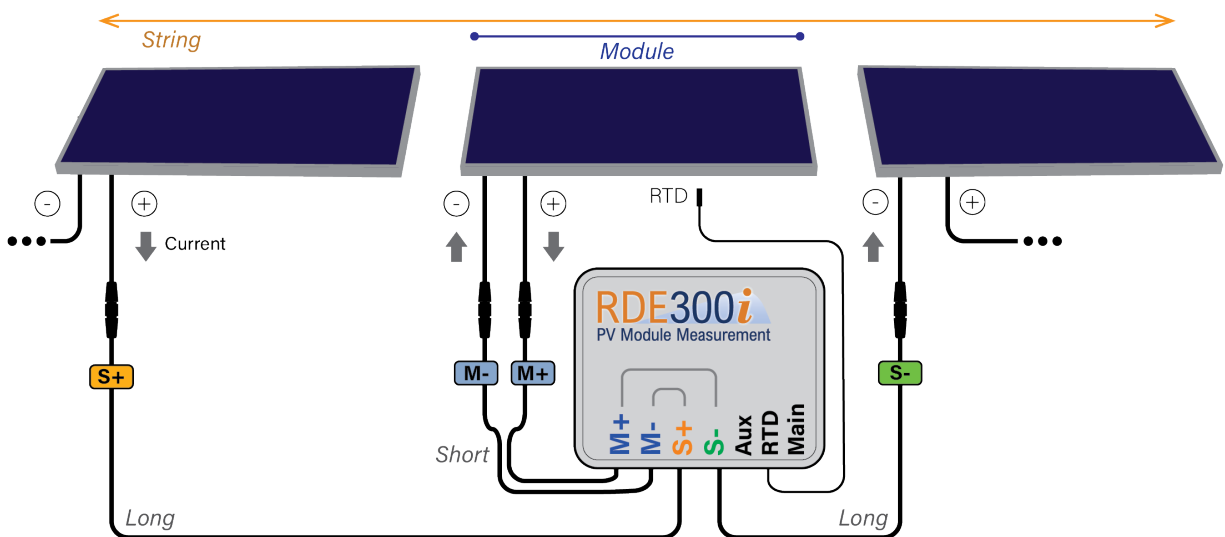
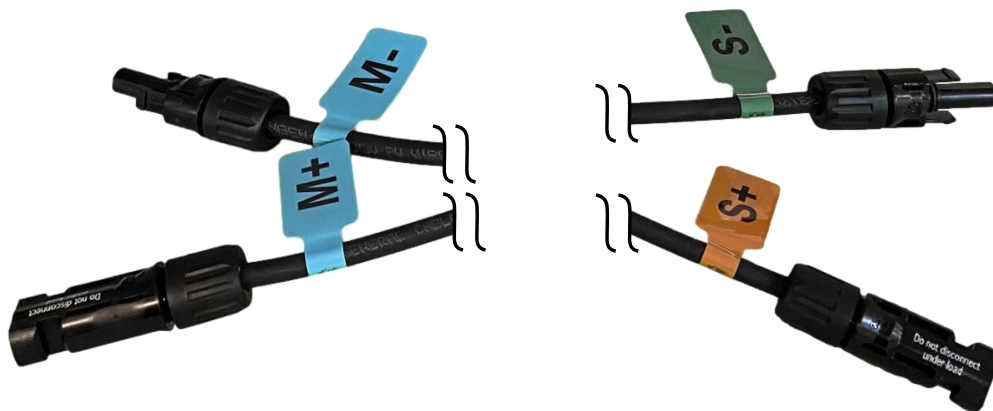

Figure 7-4: Wiring diagram for PV Module and String cables
Figure 7-5: Module and String cable labels
- Connect the Module cables to a single PV module, per Section 7.2 and the wiring diagram in **Figure 7-4**
- Connect the String cables to complete the string circuit, per Section 7.2 and the wiring diagram in **Figure 7-4**
The PV Module and optional String cables must be connected per the wiring diagram in **Figure 7-4**. Note that the Module and String cables are labelled as shown in **Figure 7-5**. The cables are terminated with MC4 connectors (Multi-Contact part numbers 32.0017P0001-UR and 32.0016P0001-UR). Adapters may be required for your PV modules.